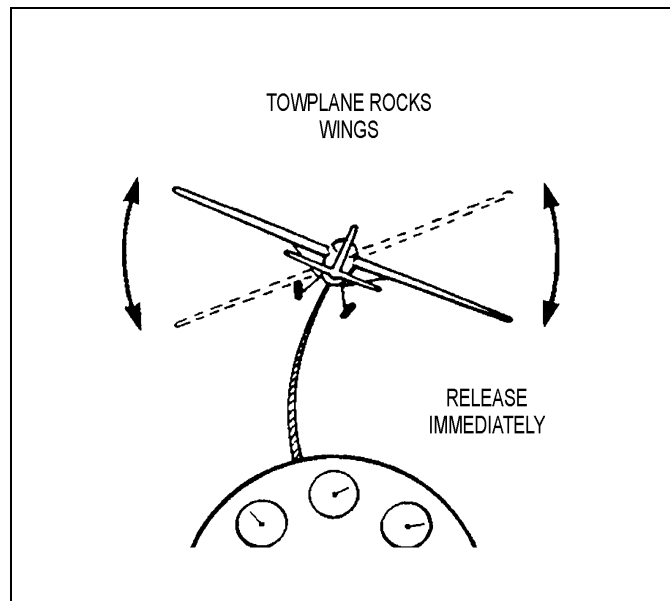

Figure 2-7-1 Towplane Signaling Release
- b. Similarly, when a tow aircraft gives the release signal, the glider pilot shall immediately release, establish safe separation and select a suitable landing area. See Figure 2-7-1.